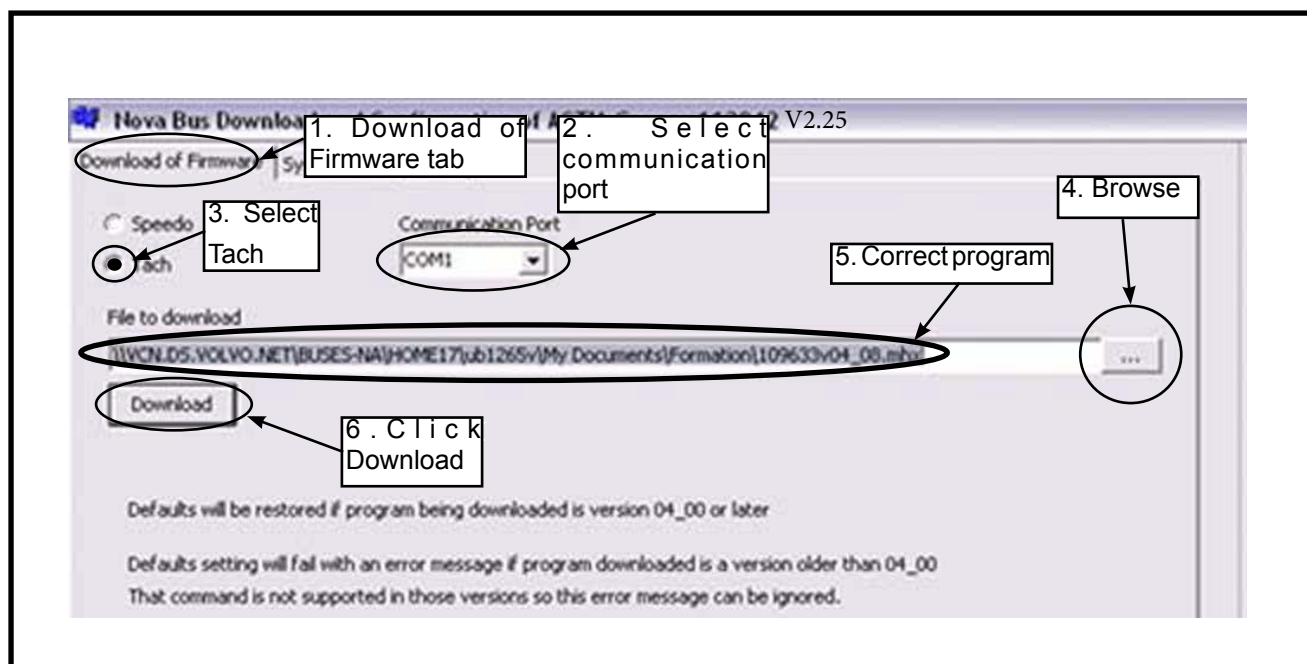

Figure 23 - Select the File to Download
4.1.2 Follow the steps in Figure 23 to select the right program for the gauge being reprogrammed (see Figure 23).